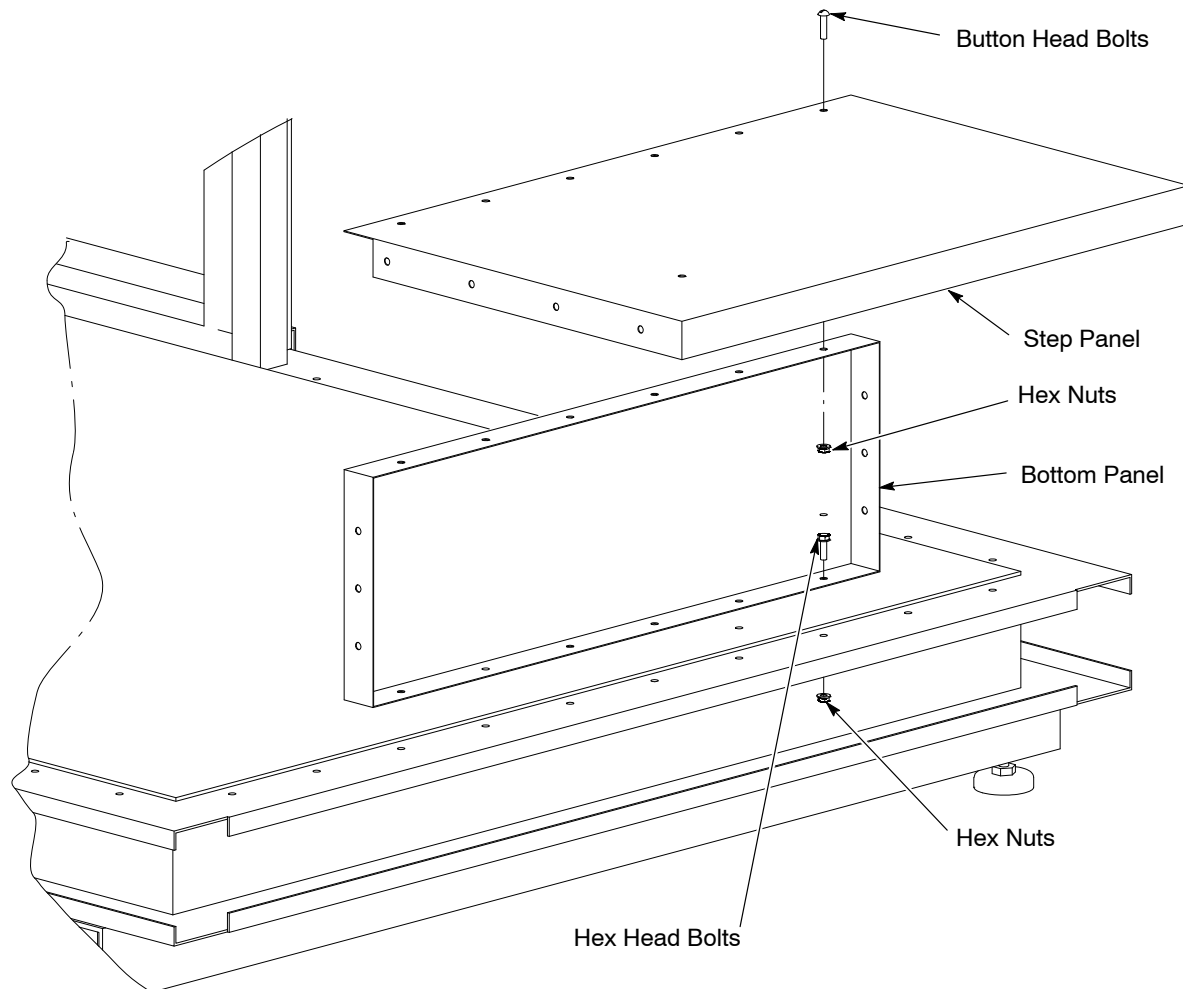

Figure 2 End Vestibule Step Installation
1. See Figure 2. Fasten the bottom panel to the base with 5/16–18 hex head bolts and hex nuts.